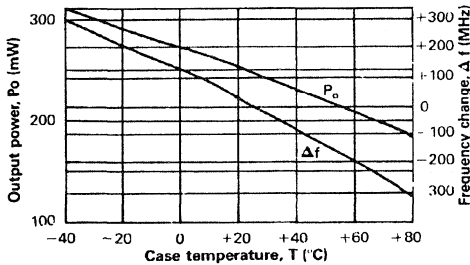

Fig. 2a Variation of Power and Frequency with Temperature for a DC1276H Device Operating in the Fundamental Mode.
6. Typical variations of frequency and power with temperature are shown in Figures 2a. and 2d. An adequate heatsink must be provided so that the rated stud temperature is not exceeded.